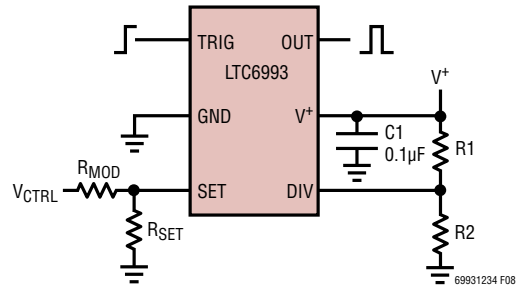
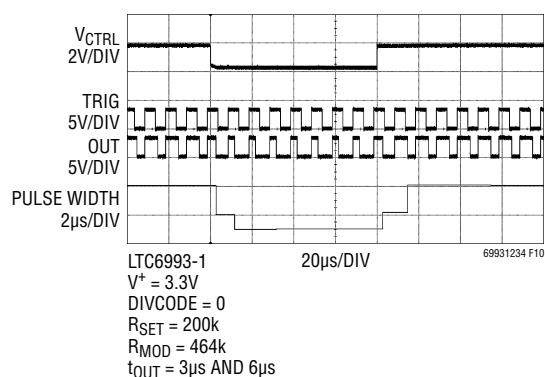

Figure 8. Voltage-Controlled Pulse Width
Figure 10. Typical Settling Time
With one additional resistor, the LTC6993 output pulse width can be manipulated by an external voltage. As shown in Figure 8, voltage V_{CTRL} sources/sinks a current through R_{MOD} to vary the I_{SET} current, which in turn modulates the pulse width as described in Equation (3).
Following a $2\times$ or $0.5\times$ step change in I_{SET} , the output pulse width takes approximately six master clock cycles ($6 \cdot t_{MASTER}$) to settle to within 1% of the final value. An example is shown in Figure 10, using the circuit in Figure 8.